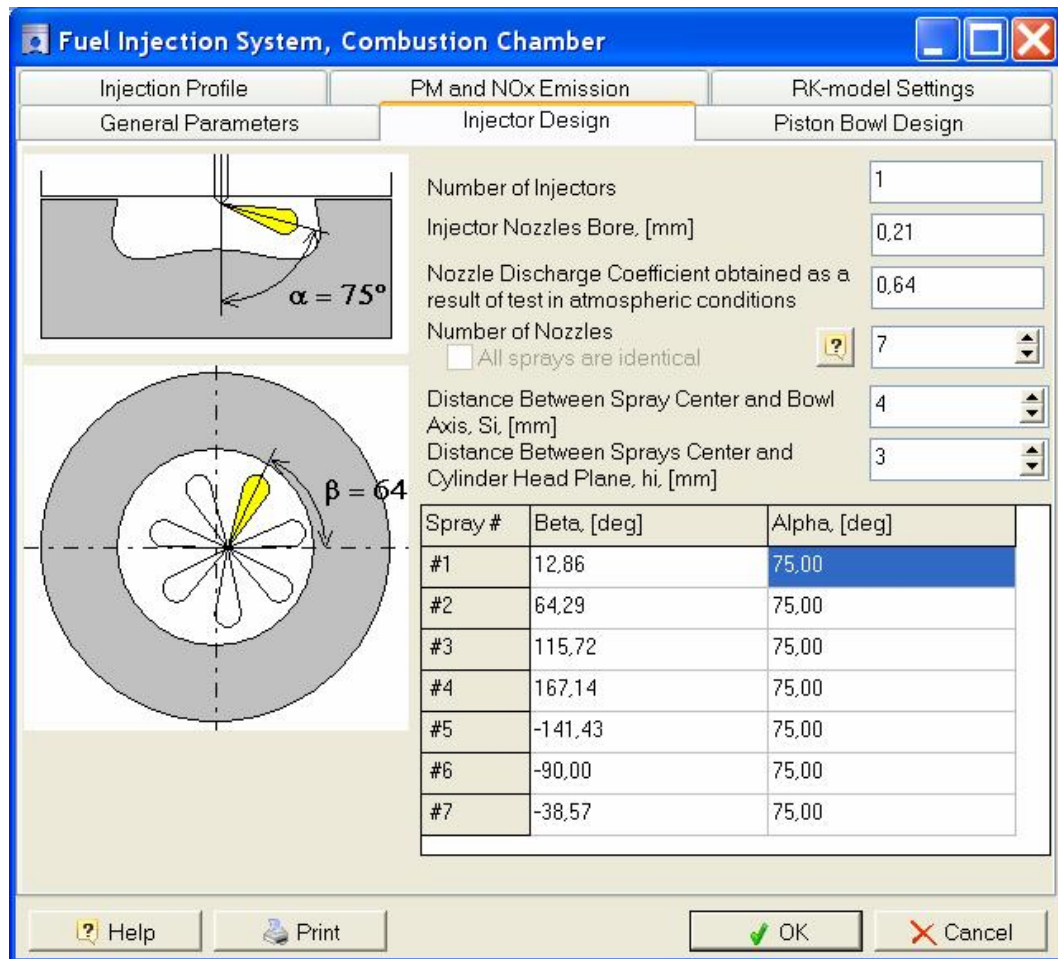

Fig. 1. Injector design parameters
- Design of injector nozzles: orientation of each nozzle in both planes (see fig. 1.)